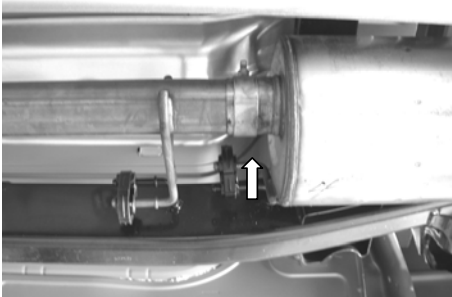

Figure 1
1. Unbolt clamp shown in figure 1 in front of muffler assembly.